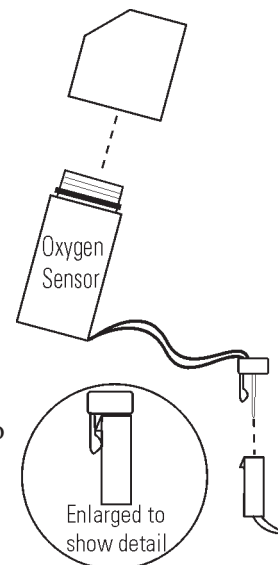

Figure 5-13. Detail
- Lift up slightly on the tab securing the sensor wire terminal connection. Be careful not to break the tab off. See enlarged detail of Figure 5-13.